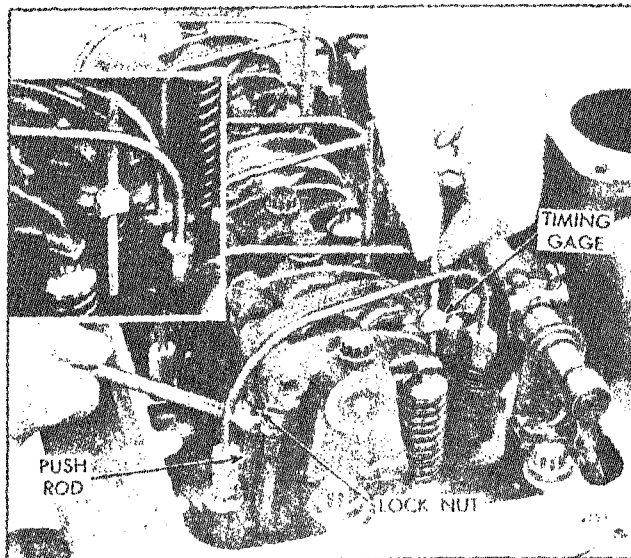

Fig. 3 - Timing Fuel Injector
3. Place the small end of the injector timing gage (see table for correct timing gage) in the hole provided in the top of the injector body, with the flat of the gage toward the injector follower as shown in Fig. 3.